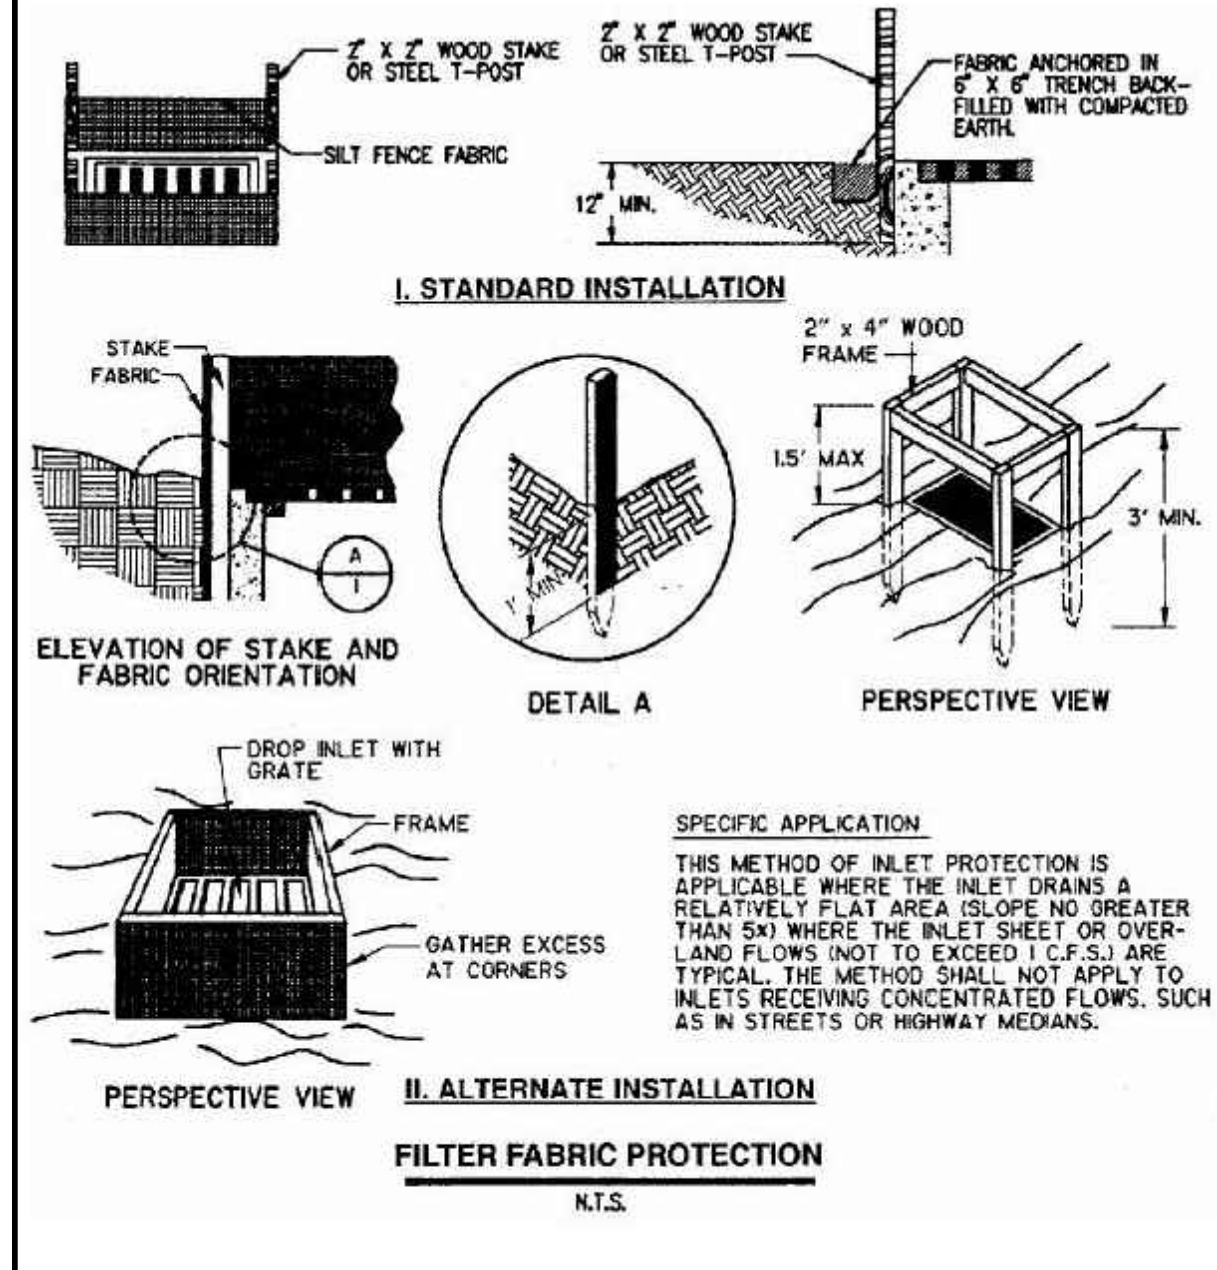

Figure 1-33 Filter Fabric Inlet Protection (NCTCOG, 1993)
- Space stakes evenly around the perimeter of the inlet a maximum of 3 feet apart, and securely drive them into the ground, approximately 18 inches deep (Figure 1-33).